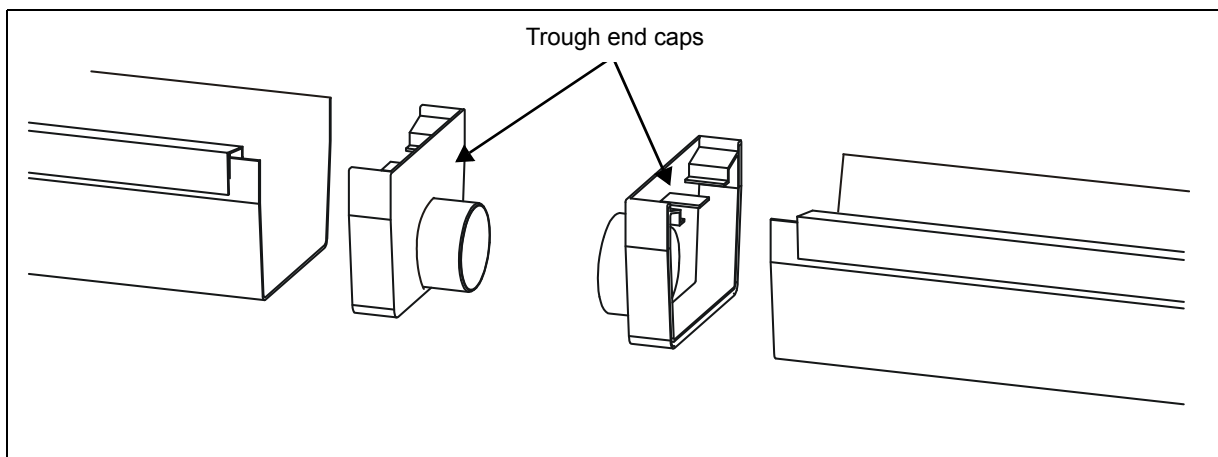

Figure 1A
Step 2: Take (2) evap end cap assemblies (60-0423, already glued by manufacturer) and place on ends of the troughs to be located at the center of the evap system. (See Fig. 1A.)